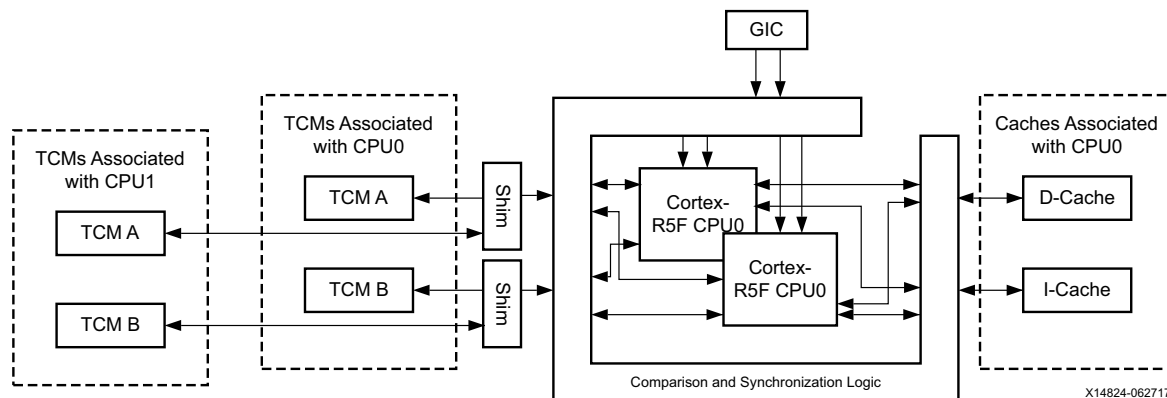

Figure 2-3: RPU Lock-Step Operation
- Lock-step operation, shown in Figure 2-3.